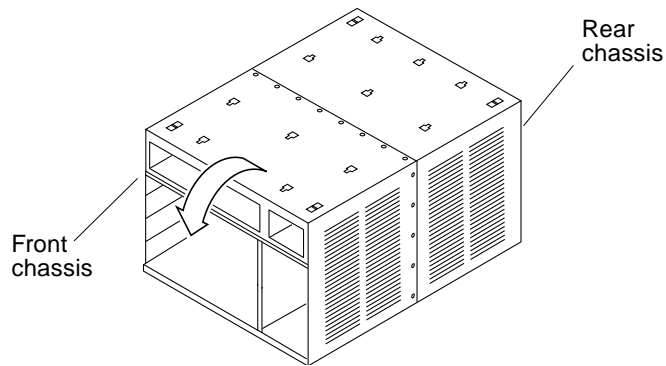

FIGURE 7 Orientation of Empty System Chassis
7. Place the empty system chassis front side down (FIGURE 7).
1. Place the system front side down as shown in FIGURE 7.